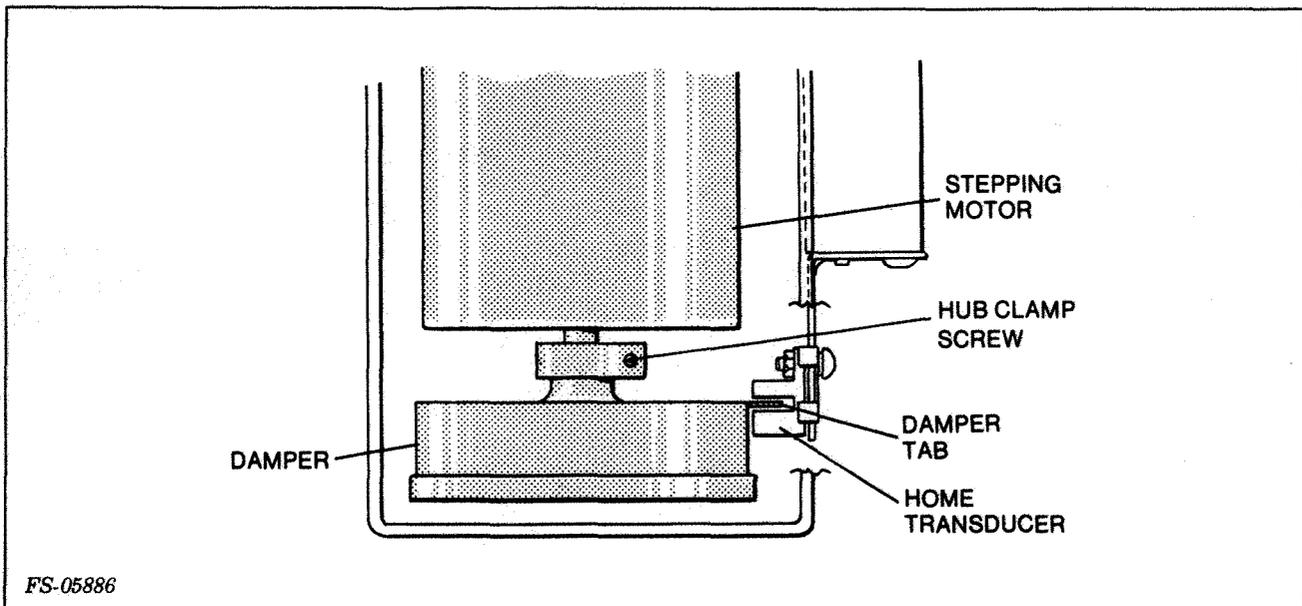

Figure 5-18. Damper (Side View)
7. Hold the damper and loosen the screw in the hub clamp (see Figure 5-18).